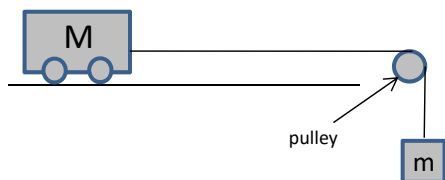

Fig. 1
1. Consider the experimental configuration shown in Figure 1. Starting from Newton's 2nd law, show that the acceleration of the cart is on the string is given by: